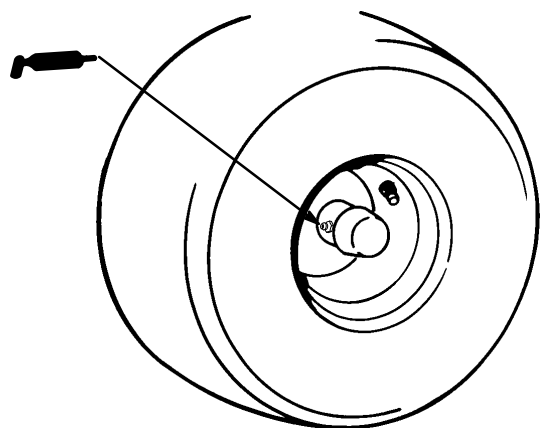

Figure 18
1. Lubricate the wheel bearings (Fig. 18).